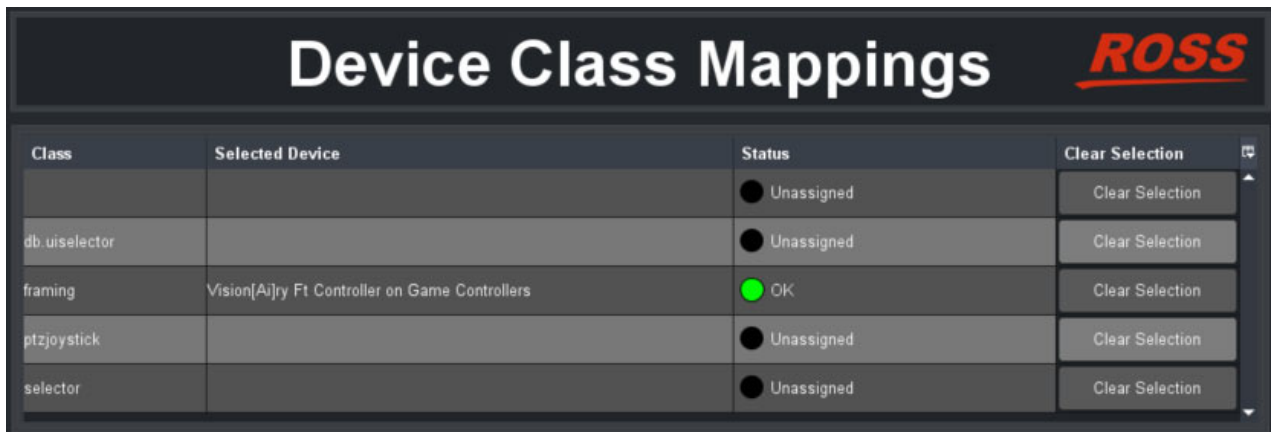

Figure 113 - Device Class Mappings, showing the framing Device Class Mapped to a USB Controller
1. In the Dashboard tree, within the **Dashboard Services** node, double-click **Device Class Mappings**. The **Device Class Mappings** interface appears (Figure 113).